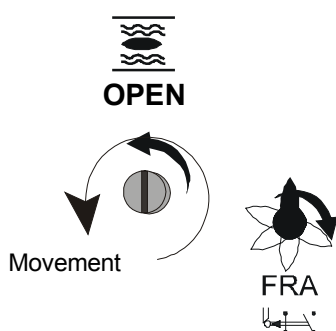

Fig. 8.5.1
- Turn **A spindle** Counter-clockwise (Figure 8.5.1) until **B spindle** turns clockwise (At this moment FRA microswitch triggers). Just before FRA microswitch was tripped, red arrow of **B spindle** should be pointed to vertical: When **B spindle** (Red arrow) turns to right the FRA microswitch is tripped.